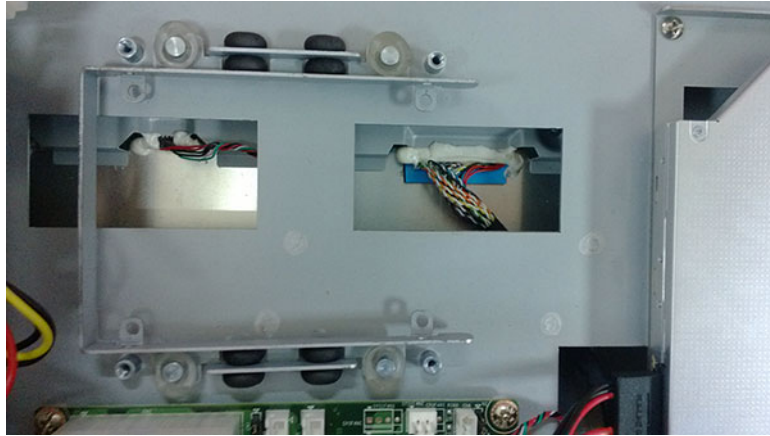

Figure 2.15
3. Take down the HDD U type bracket. (See Fig 2.15)